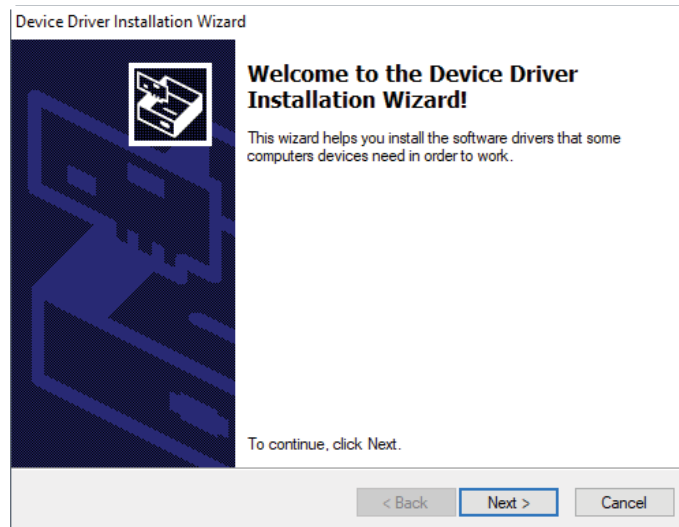

Figure 2.6 The Device Driver Installation Wizard dialog box
- During the installation, the **Device Driver Installation Wizard** dialog box is displayed, as shown in Figure 2.6.